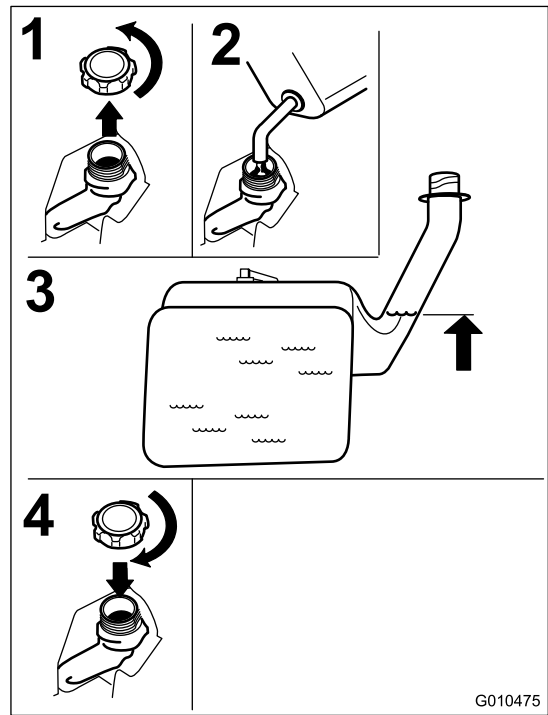

Figure 13
2. **Slowly** add regular, unleaded gasoline until the fuel reaches the base of the filler neck Figure 13.